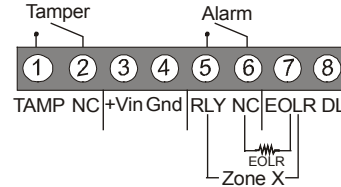

Figure 1: Terminal Block
- Connect the wires** to the terminal block as shown in Figure 1.